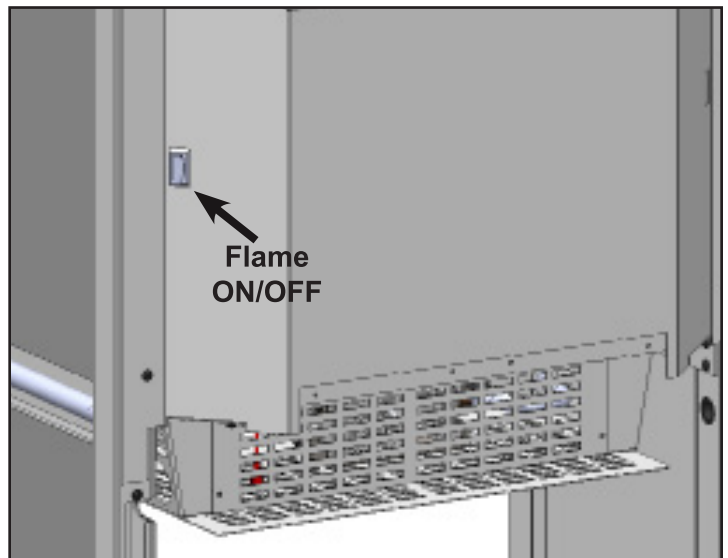

Fig. 29
3. Flip the flame ON/OFF switch (located on the back of the rear shield) to ON. (Fig. 29)